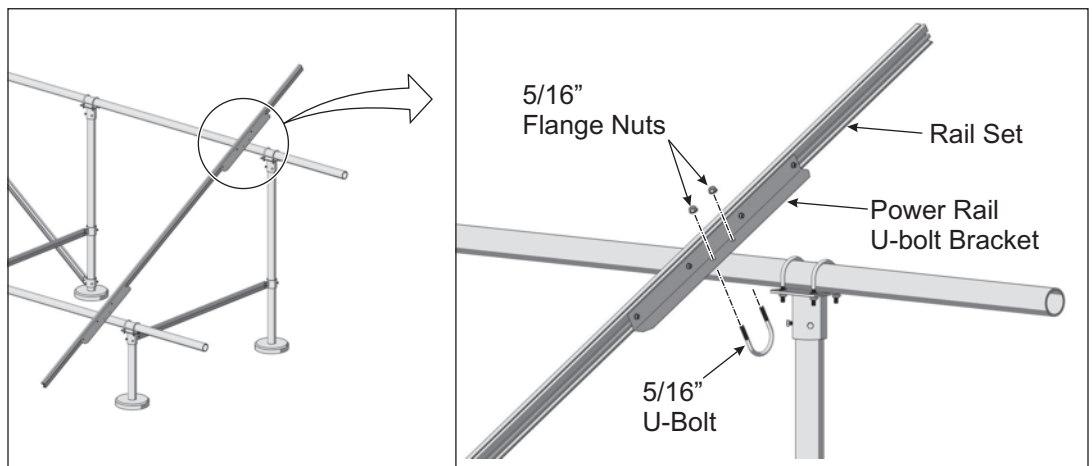

Figure 6-1: Attaching the northern-end of the Rail Set
- A. Place and hold the Rail Set on top of the horizontal pipes. (See Figure 6-1)